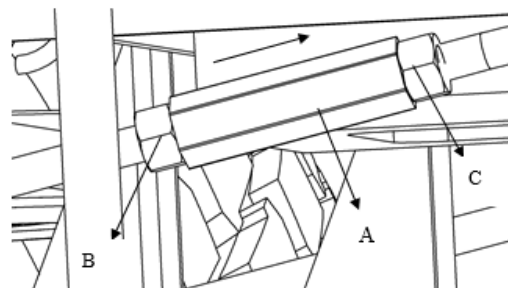
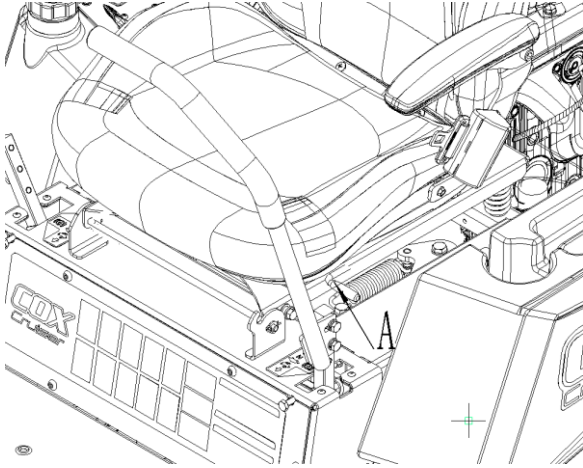

Figure 21
Figure 22
7.5.3 If the left wheel need to be adjusted, locate position A(Refer to Figure 21) ,the more detail of the position A is shown as the Figure 22.
7.5.4 If the right wheel rotates clockwise (From the outside view see Figure 21), slightly loosen the nut (B and C), then turn the neutral buckle (A of Figure 21) counterclockwise (from the direction of arrow, see Figure 21) until the wheel does not rotate. On the other hand, turn the nut clockwise. Finally, tighten the nut (B and C) securely.
Refer to Figure 22. The seat can be adjusted forward and backward. Loosen the adjustment bolt (A), position the seat as desired, Tighten the lock bolt (A) to lock the seat into position.